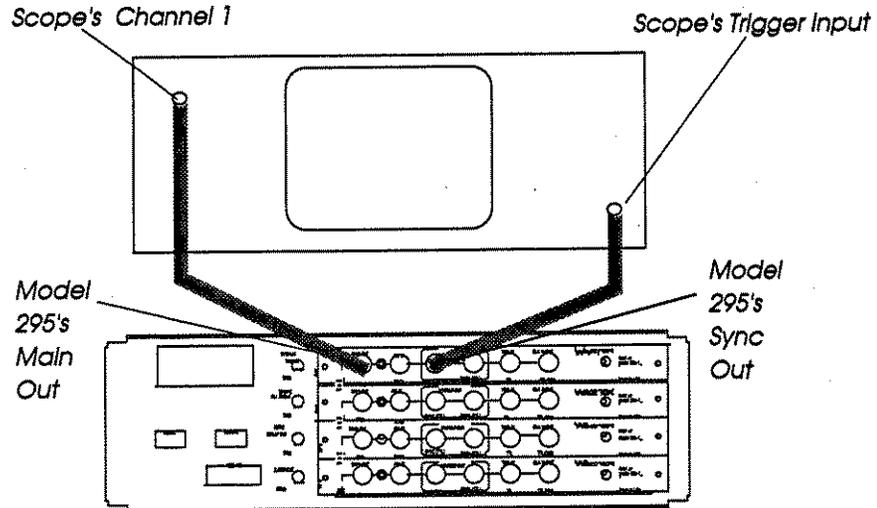

Figure 2-10. Model 295 to Scope Interconnections
3. **Arb Channel 1 Connections.** Connect the Main Out and Sync Out from Arb Channel 1 to channel 1 and Trigger input connectors, respectively, on the scope. Be sure to properly terminate each output with 50Ω terminations. See figure 2-10.